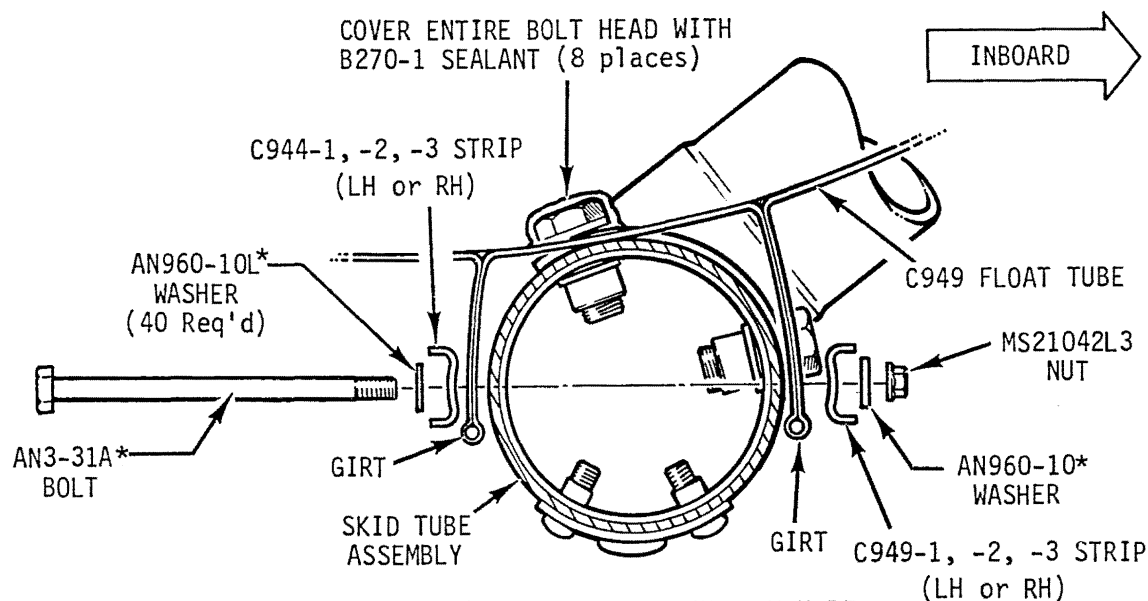

FIGURE 5-3 UTILITY FLOAT ATTACHMENT
1. See Figure 5-3. Ensure bolt heads directly beneath float are covered with a protective layer of B270-1 sealant (see Section 1.480). Apply additional sealant as required.
2. See Figure 5-3. Position uninflated float tube over landing gear skid tube and extension. Align holes in C944 retainer strips, float tube girts, and skid tube.
3. Install AN3 attach bolts per Figure 5-3. Seal under bolt head and nut with B270-1 sealant (ref Section 1.480). Torque bolts per Section 1.320.